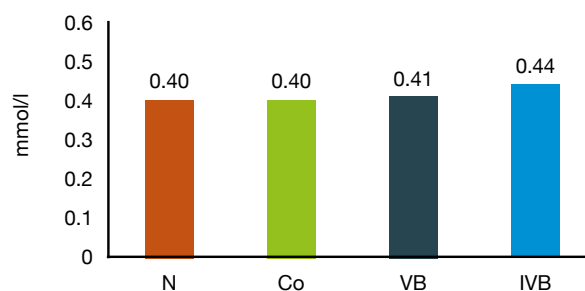
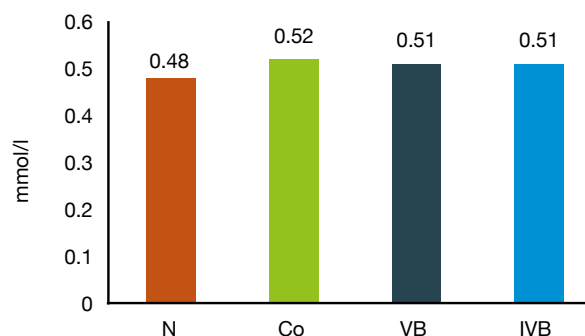

Figure 44. Effect of supplementation on blood NEFA levels
Figure 45. Effect of supplementation on BHBA blood levels
- Blood concentrations of non-esterified fatty acids (NEFA, Figure 44) and beta-hydroxybutyric acid (BHBA, Figure 45) were not affected by the Co and vitamin B12 supplementation